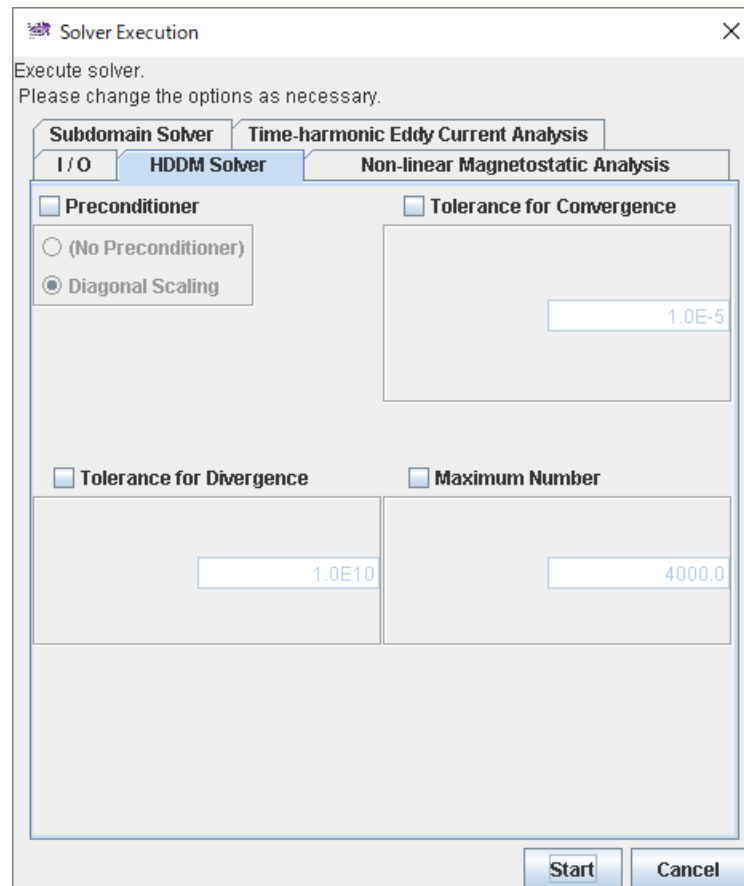

**Fig. 2.7-2 Solver Execution Dialog (I/O Option)**
Calculation by solver is started. When you select "Analysis" -> "Run Solver", the solver execution dialog (Fig. 2.7-2) is shown. In the solver execution dialog, you can change various analysis condition options provided in the solver. There are four options: "I/O", "Non-linear Magnetostatic Analysis", "Subdomain Solver", and "HDDM Solver".
**I/O Option (Fig. 2.7-2)**